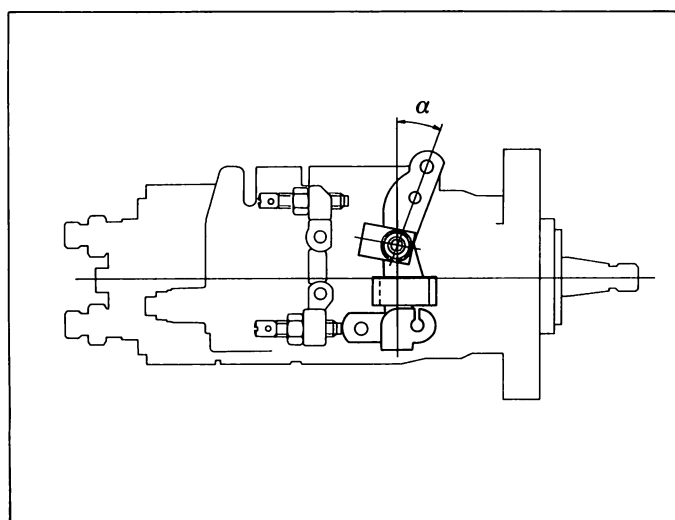

Fig. 118 Confirming the control lever angle " $\alpha^\circ$ "
4. Confirm that the control lever angle ( $\alpha$ ) is as specified by referring to the measuring device indication. (Fig. 118)